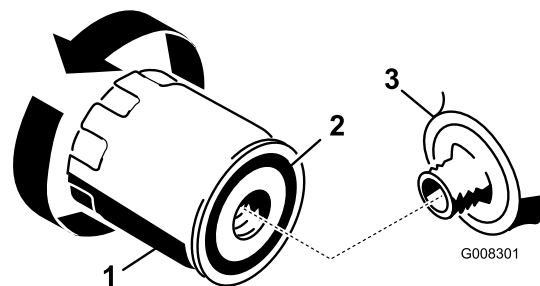

Figure 27
2. Remove the old filter and wipe off the adapter gasket surface (Figure 27).
3. Apply a thin coat of new engine oil to the rubber gasket on the new filter (Figure 27).
5. Tighten the filter an additional 1/2 to 3/4 turn (Figure 27).